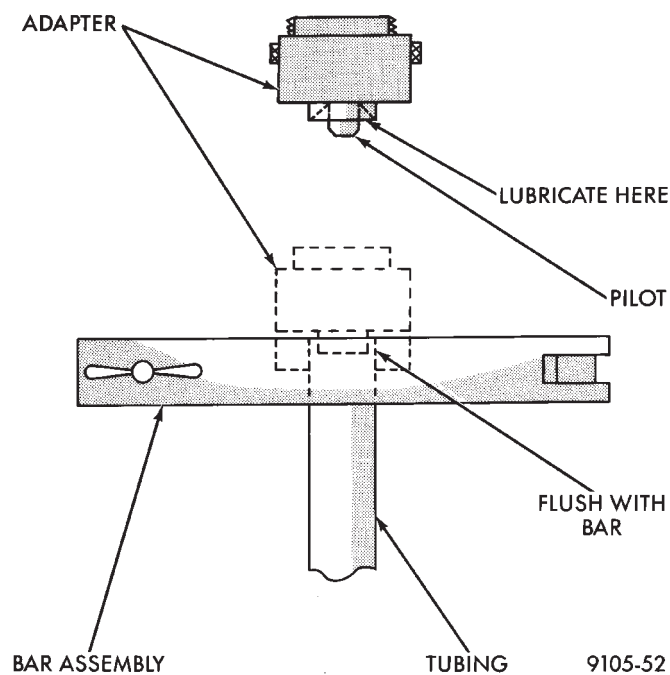

Fig. 16 ISO Tubing Flare Process
To create a (metric) ISO style tubing flare, Use Snap-On Flaring Tool TFM-428, or equivalent. See (Fig. 16) and proceed with the steps listed below. **Be sure to place the tubing nut on the tube before flaring the tubing.**
(2) Open the jaws of the Flaring Tool. Align the mating size jaws of the flaring tool around the size of the tubing to be flared. Close the jaws of the Flaring Tool around the tubing to keep it from sliding out of the flaring tool, but do not lock the tubing in place. See (Fig. 16)
(3) Position the tubing in the jaws of the Flaring Tool so that it is flush with the top surface of the flaring tool bar assembly. (See Fig. 16)
(4) Install the correct size adaptor for the brake tubing being flared, on the feed screw of the yoke assembly. Center the yoke and adapter over the end of the tubing. Apply lubricant to the adapter area that contacts brake tubing. Making sure the adapter pilot is fully inserted in the end of the brake tubing. Screw in the feed screw of the yoke assembly until the adaptor has seated squarely on the surface of the bar assembly (Fig. 16). This process has created the (metric) ISO tubing flare.